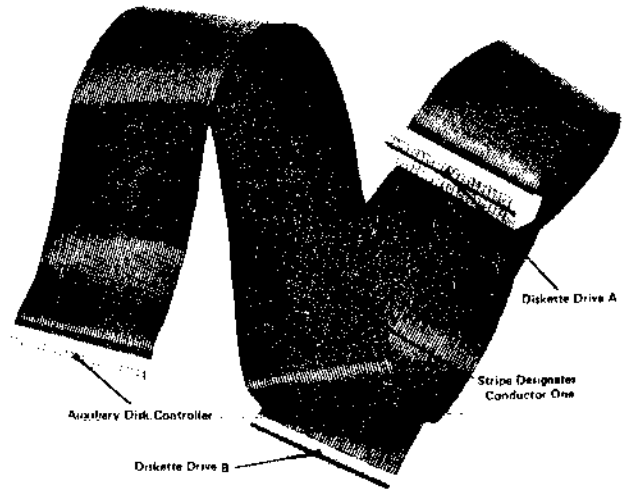

Figure 2-9 – 8-Inch Disk I/O Cable – 800855
2.13 *8-Inch Disk I/O Cable* illustrated in Figure 2-9 interconnects the Auxiliary Disk Controller with the 8.0-inch disk drives. This cable has 50 conductors and is 44 inches long.